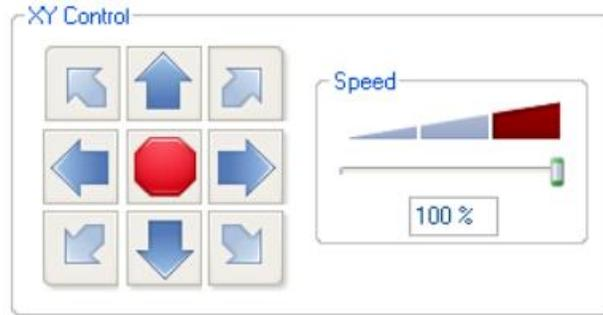

Figure 12. XY Control Buttons.
27. From the "Navigate to Scan Centerpoint", use the XY Control buttons to navigate to the area of the sample you wish to scan, as shown in Figure 12.